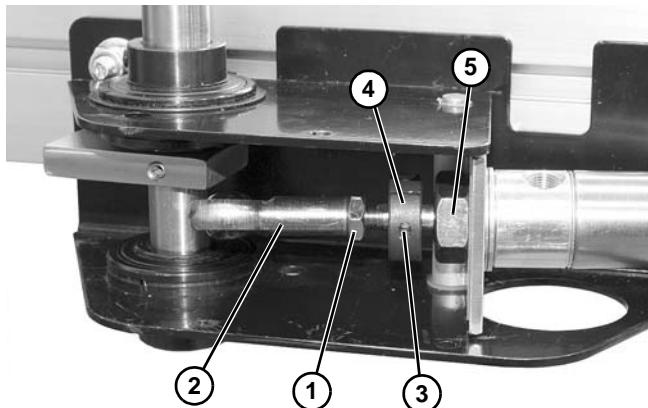

Figure 70
5. Using a wrench, loosen jam nut (**Figure 70, item 1**). Remove eye bolt (**Figure 70, item 2**) and jam nut from threaded rod.
6. Loosen stop screw (**Figure 70, item 3**) and remove collar (**Figure 70, item 4**) from rod. Using 7/8" open end wrench on back end of cylinder, unscrew cylinder from mounting nut (**Figure 70, item 5**).